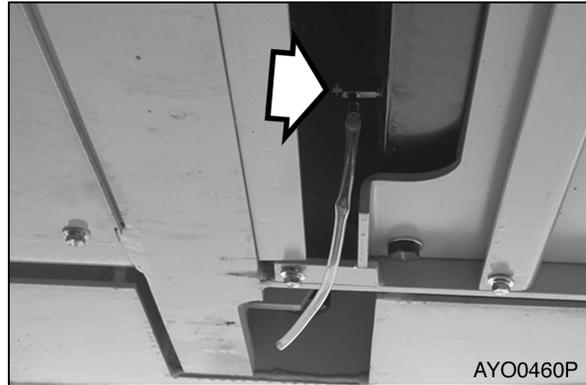

Figure 70
2. Place a container under the radiator and open the drain valve (Figure 70).